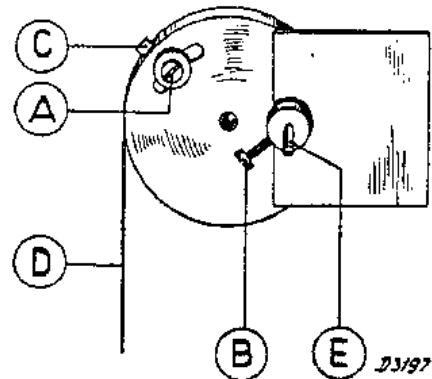

Fig. 6.
4. Loosen screw A (Fig. 6) and turn the pointer drum so that the pointer indicates exactly 510 m.